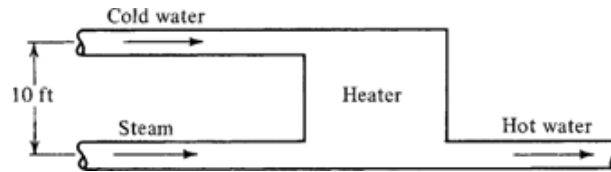

Figure P2.14
- 2.14** Cold water with an enthalpy of 8 Btu/lbm enters a heater at the rate of 5 lbm/sec with a velocity of 10 ft/sec and at a potential of 10 ft with respect to the other connections shown in Figure P2.14. Steam enters at the rate of 1 lbm/sec with a velocity of 50 ft/sec and an enthalpy of 1350 Btu/lbm. These two streams mix in the heater, and hot water emerges with an enthalpy of 168 Btu/lbm and a velocity of 12 ft/sec.